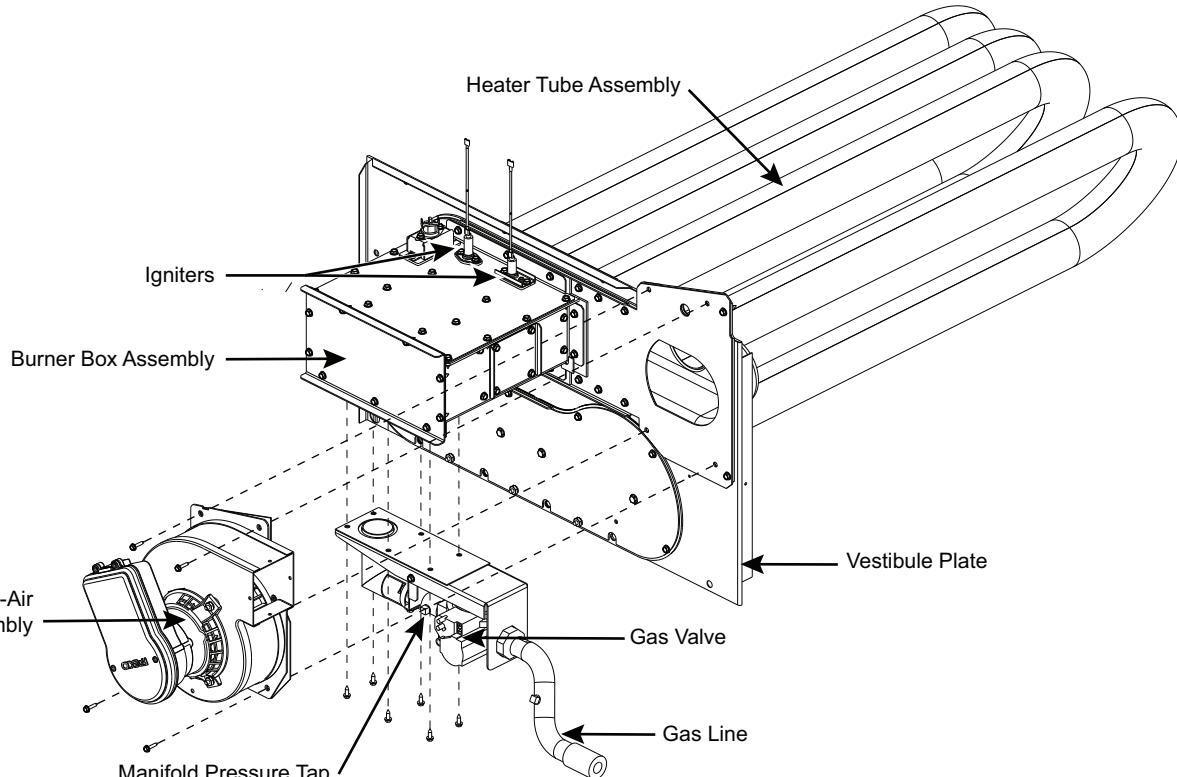

Fig. 49 — Heat Exchanger Assembly
2. Remove the four screws attaching the induced-draft motor housing to the vestibule plate (see Fig. 49).
9. Remove the six screws attaching the gas valve assembly to the burner box assembly (see Fig. 49).
10. Remove the pressure switch hose from the connection on the flue cover assembly (see Fig. 49).